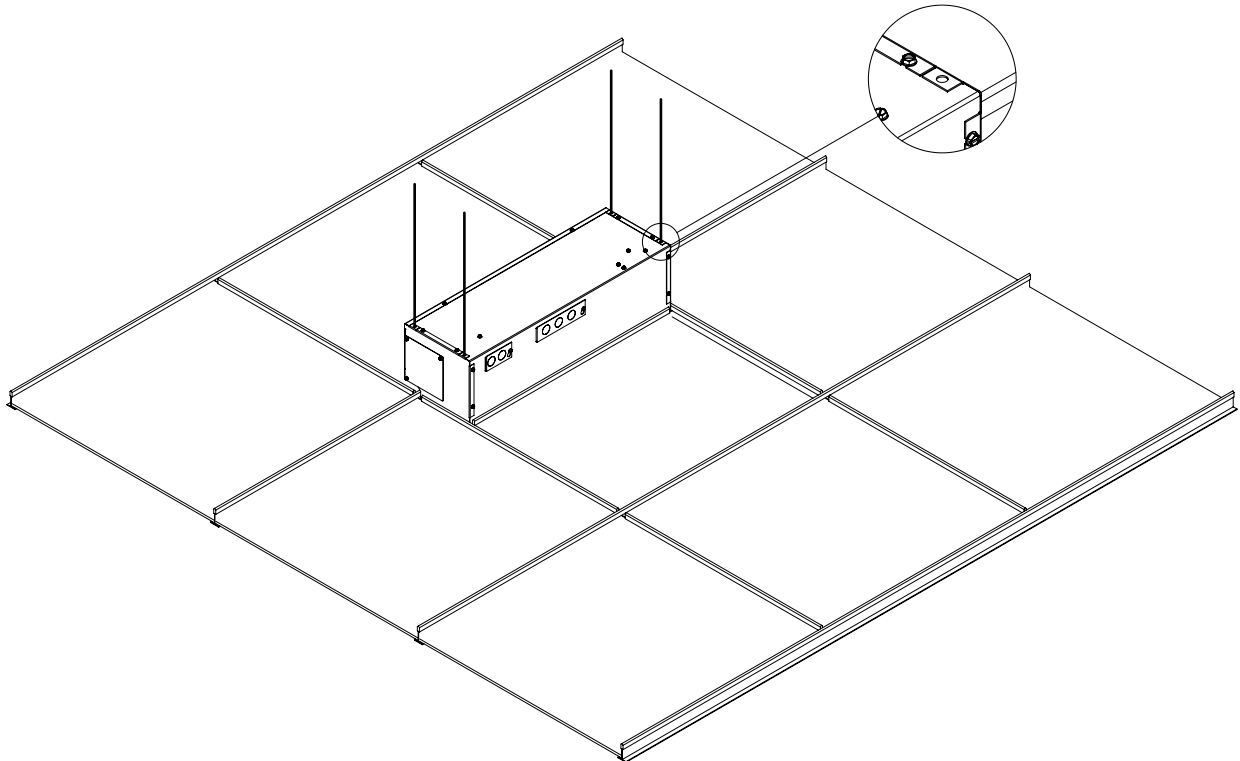

Figure 3
5. Install “safety wires” by bending tabs on top of the fixture to a vertical position and attach to the building structure, in compliance with local codes (Figure 3). Do not rely on the T-track to hold the weight of the fixture.